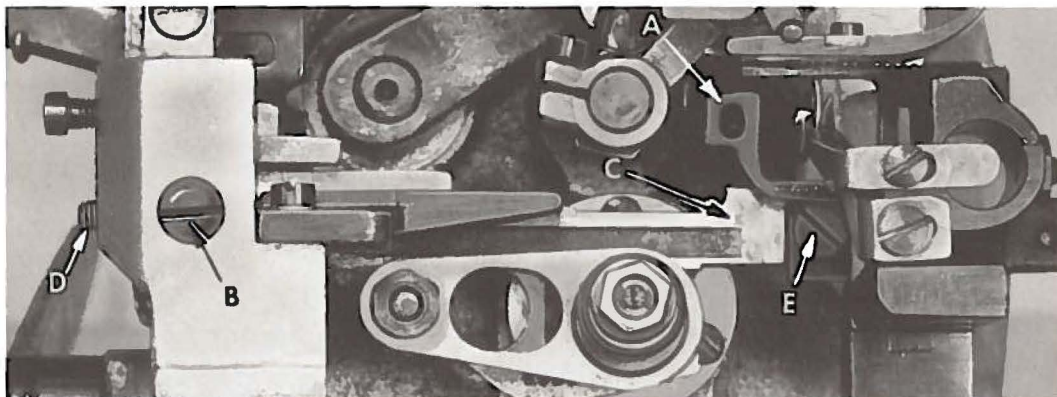

Fig. 10
The feed dog (A, Fig. 10) should be leveled with respect to the throat plate by rotating the feed tilting adjusting pin (B). This pin raises or lowers the back end of the feed bar (C). The feed dog should be set level at the time its teeth first appear above the throat plate. Screw (D) locks the feed tilting adjusting pin in place.